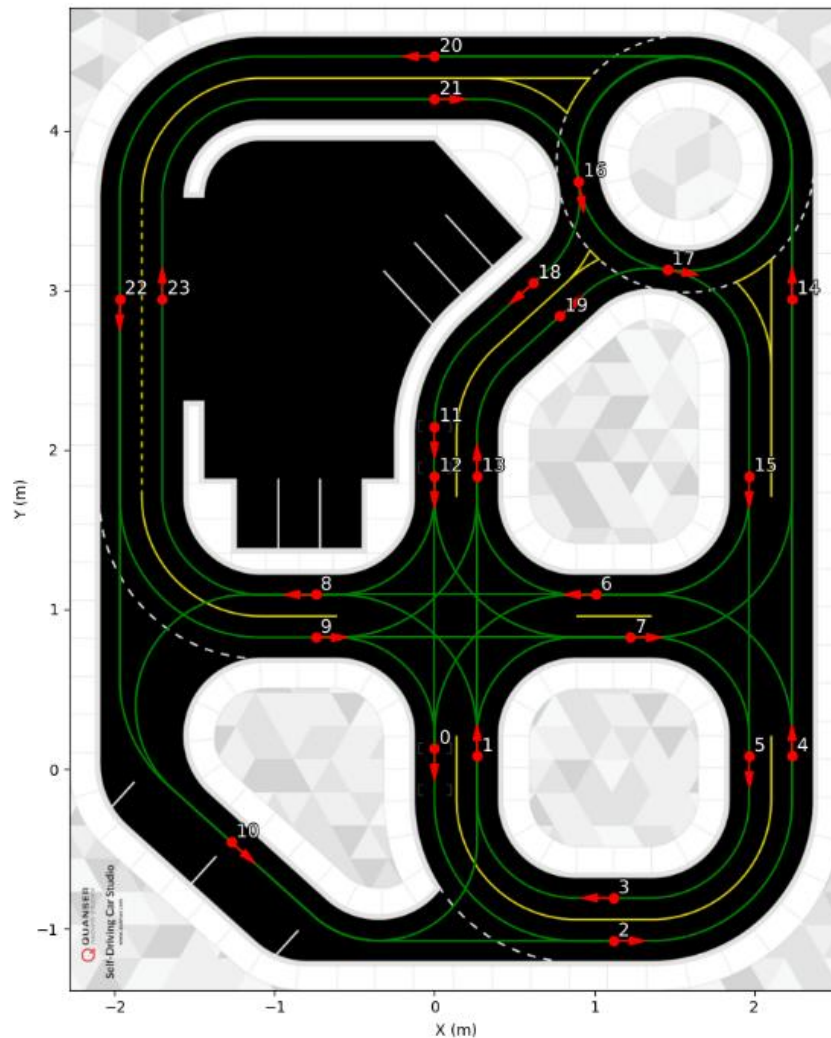

Figure 2. Pre-defined Nodes of the SDCS Mat.
3. Calibrate the QCars by placing the calibrating QCar (*CALIBRATE_IP*) at **node 11**, as shown in Figure 2, and run **calibrate.bat**. If the physical environment changes, the calibration step should be done again.
When the script is executed, between 6 to 10 random nodes are chosen to compose the node sequence which auto-generates the path that the QCar will follow for the duration of this example. Valid path segments are in green, as shown in Figure 2. The initial location of the QCars can be anywhere on the green line, they will automatically follow a path leading to the start node before repeating the node sequence.